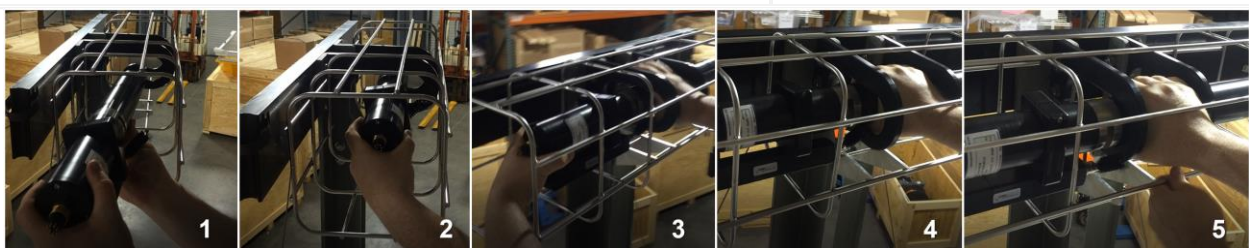

Figure 62. Reinstall SUNA from Dual PAR SUNA Mount Cage Clamps (Source: YSI Mechanical Engineer, Allen Hunter)
STEP 4 | To reinstall, slide the SUNA into the cage until the wiper is almost flush with the first black clamp (Picture 1-4 in Figure 62). Reach in-between the cage and pull and the SUNA toward you until it locks into place (Picture 5 in Figure 62). *Reference AD [06] to conduct field calibrations and validations for the SUNA.*